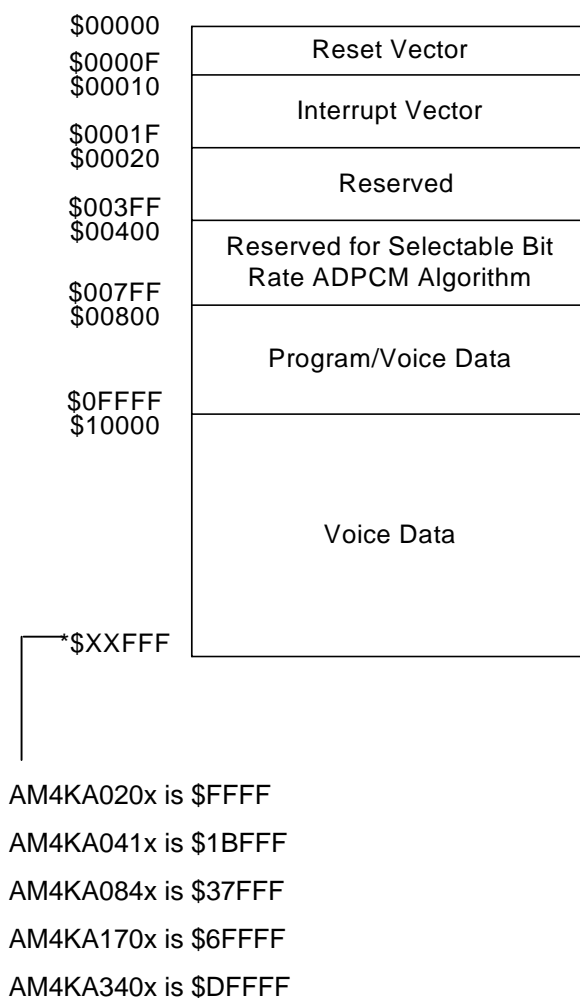

FIGURE 3.1 AM4KA_OTP ROM Map
ROM memory is divided into six portions. The first portion 0x0~0xF is addressed for Reset Vector in the normal mode. The second portion 0x10~0x1F is addressed for Interrupt Vector in the normal mode. The third portion 0x20~0x3FF is reserved and not available for storing programs. The fourth portion 0x400~0x7FF is reserved for the selectable bit rate ADPCM algorithm. The fifth portion 0x800~0xFFFF is addressed for user's main program and voice data. The last portion 0x10000~0xFFFFF can be used to store voice data. Because JMP and CALL instructions can only reach an immediate address within a 16-bit wide page, the main program and ISR therefore can only be located in the 0x800~0xFFFF address range. In addition, except for Program Counter (PC), all pointers such as voice pointer (VPTR) and temporary register (TREG) can reach up to 0xDFFFF. FIGURE 3.1 shows the ROM map.